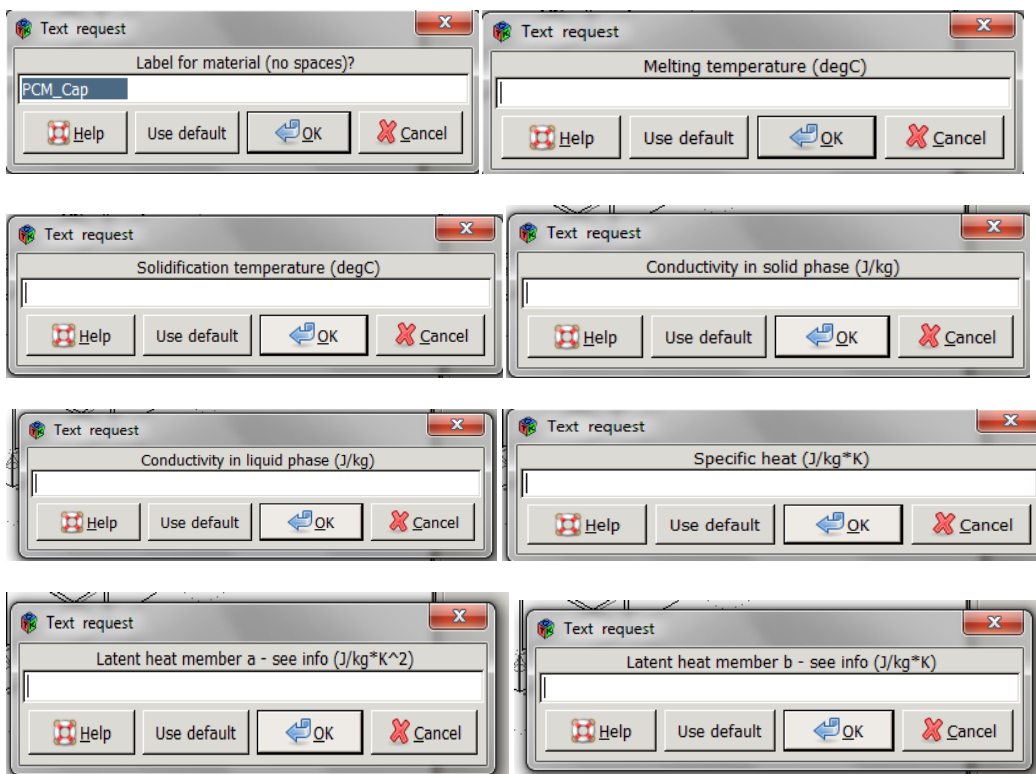

Figure 10
**Step 10:** The software requires the user to input several numerical values in order to simulate the pcm. There are outlined in the images below. Enter each value asked then click >ok after each one. (figure 10).